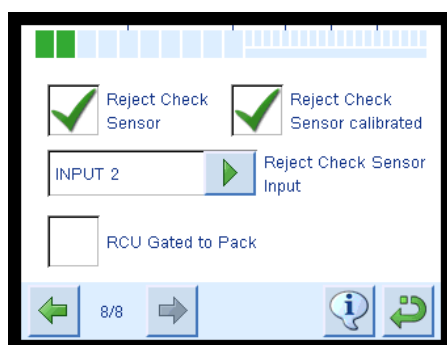

Figure 119:
4. Tick the **Reject Check Sensor** box, as shown in Figure 119. The Reject Check Sensor Input parameter and the Reject Check Sensor Calibrated tick box will appear.